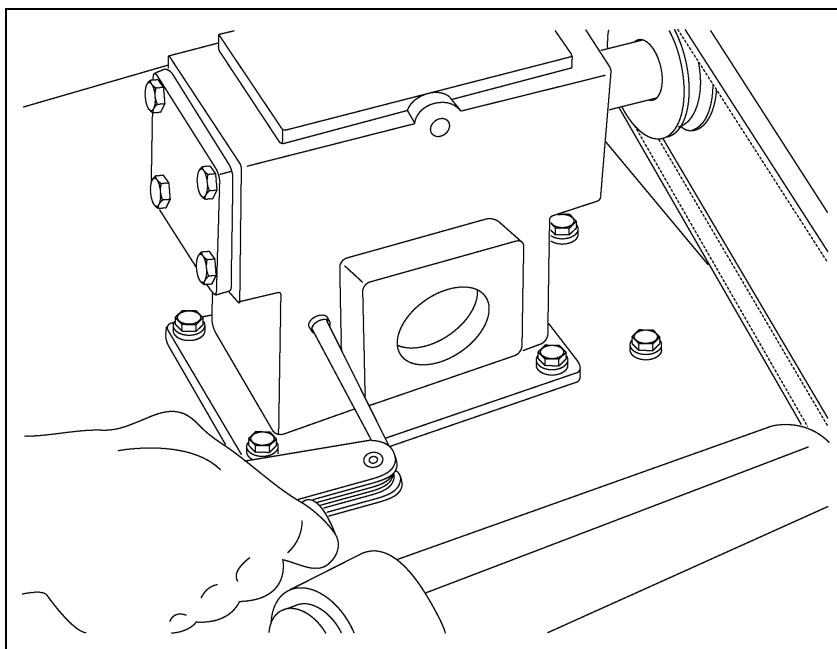

Figure 7L
10. Check the oil level in the gearbox by removing the plug and noting if the oil is at this level. Add SAE 80-90 gear lubricant if required. (See Figure 7L.)